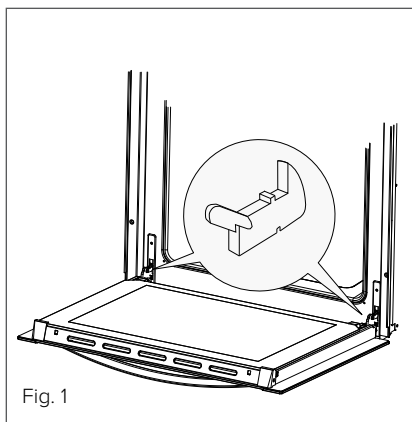

Fig. 1
- Lift and tilt the safety catch part of the hinge (Fig. 1) so that it is fully extended and points towards the door